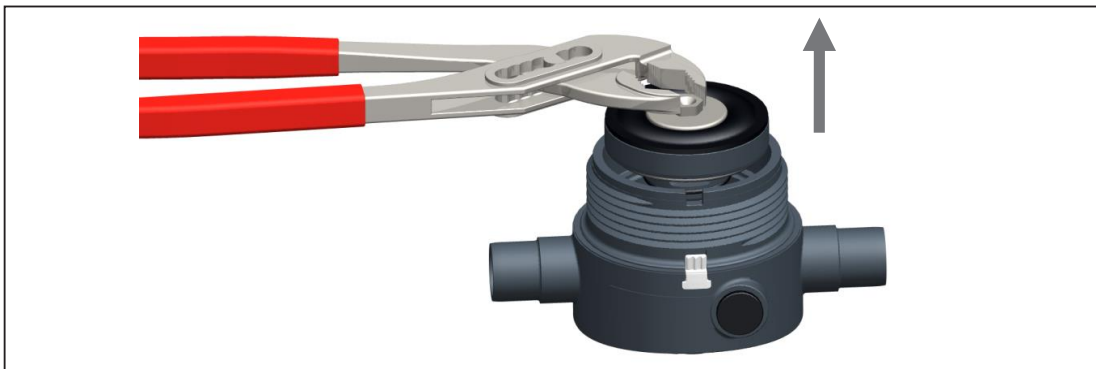

Fig. 9
- ▶ Remove cartridge from body with suited tool (e.g. pliers), see Fig. 9